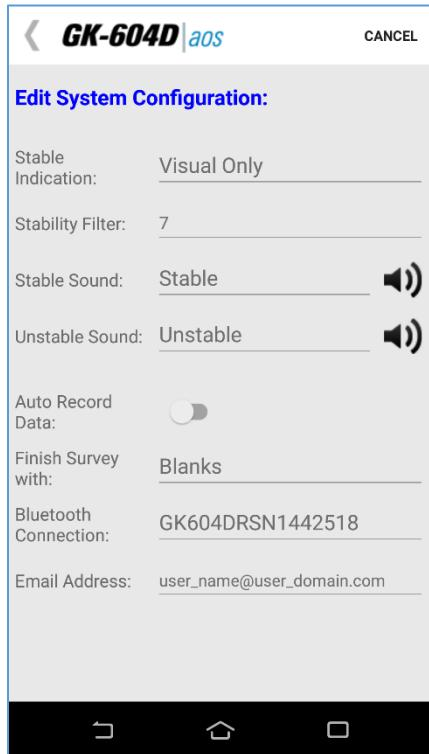

Figure 54 - System Configuration
This screen allows selecting options that affect how the system works and how surveys are taken (see Figure 54). The subsections that follow describe each parameter in detail.
- In System Configuration (Figure 54), the “Stable Indication” parameter is set to “Visual/Audible” and the “Auto Record Data” parameter is set to “On”.
- 4) By pulling on the inclinometer cable, move the probe to the next level, ensuring that the cable marker/ferrule sits just above the cable grips in the pulley assembly, (or securely in the cable hold if one is used). Approximately one second after moving the probe, the system will determine that the readings are no longer stable. Instability will be indicated by the “Record” button turning red and the “Unstable” sound selected in the “System Configuration” screen (see Figure 54) will be played.
- 5) Approximately two seconds after the cable marker/ferrule is locked in the cable grips, (or cable hold), the system will determine that the readings are again stable and respond by indicating stability (“Record” button goes green) and the “Stable” sound selected in the “System Configuration” screen (see Figure 54) will be played. Immediately following the stable sound, the current readings are stored, the record “beep” is heard, and the level is decremented by the preselected interval.